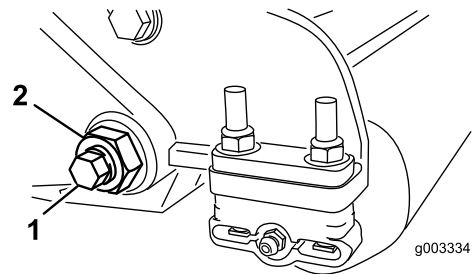

**Figure 29**
1. Turn the bedbar-adjuster screws counterclockwise to back the bedknife away from the reel (Figure 29).
2. Back out the spring-tension nut until the washer is no longer tensioned against the bedbar (Figure 29).